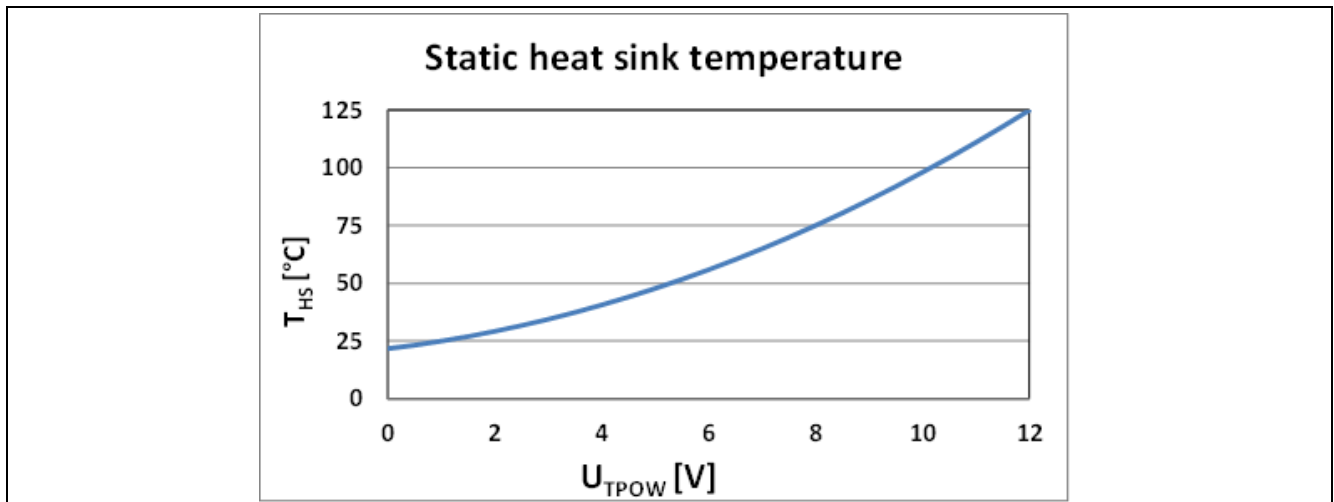

Figure 10 Heat sink temperature as a function of the applied voltage over the power resistor
To enable temperature controlled measurement, the Eval board contains a power resistor that can be used to heat up the heat sink. The relationship between the voltage applied to the resistor's terminals and the heat sink temperature is depicted in Figure 10. These values can be slightly different according to the ambient temperature and heat sink position with respect to any air flow.
4. Connect a voltage source between **TPOW+** and **TPOW-** to set the heat sink temperature, using the left graph of Figure 10 as reference